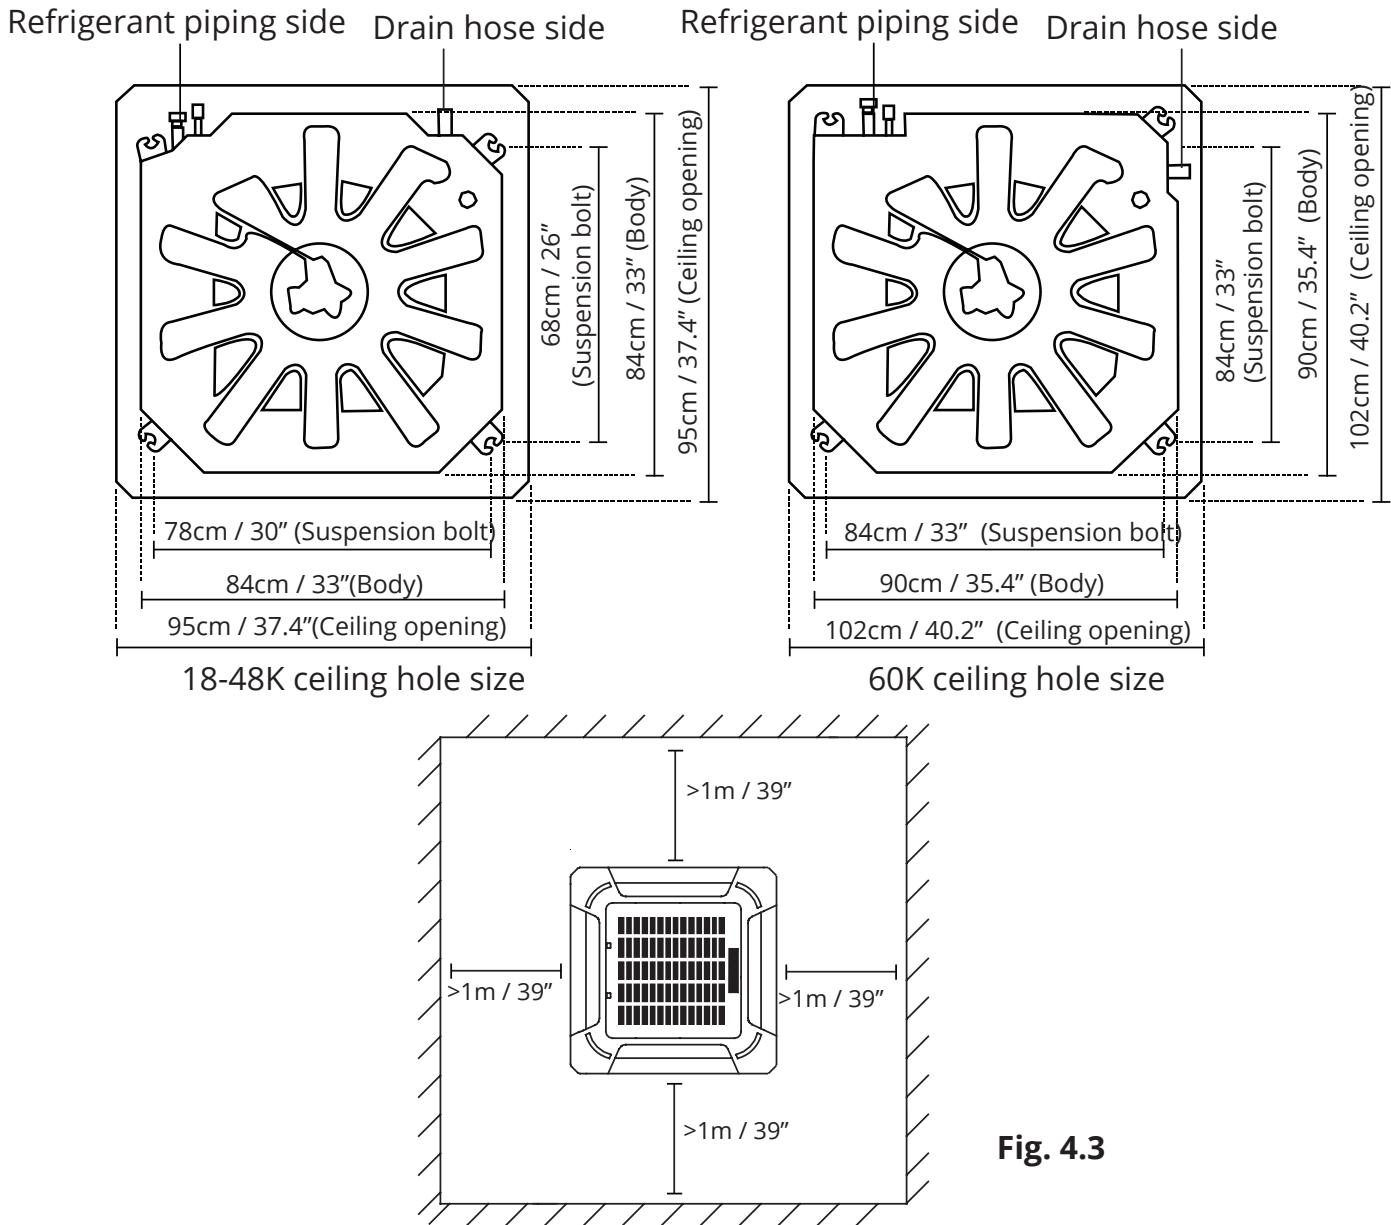

Fig. 4.3
1. Use the included paper template to cut a rectangular hole in the ceiling, leaving at least 1m (39") on all sides. The cut hole size should be 4cm(1.6") larger than the body size(See Fig. 4.3). Be sure to mark the areas where ceiling hook holes will be drilled.